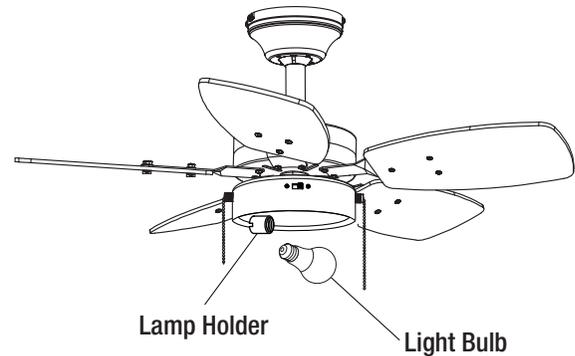

Figure 13
- Install a light bulb (max. 9W, LED, medium screw base) to the lampholder (Figure 13).